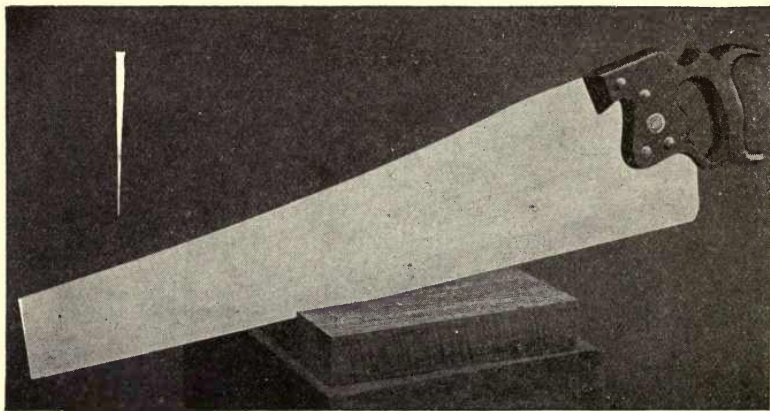

FIG. 202.—Knife Edge Cutting a Board.
**488. The Cutting Action of a Knife.**—A knife, like a chisel, operates on the principle of the wedge (Fig. 202). If the edge of even a very sharp knife is examined under the microscope, it will be found to consist of a series of very small teeth or wedges. The knife cuts by the passing of the